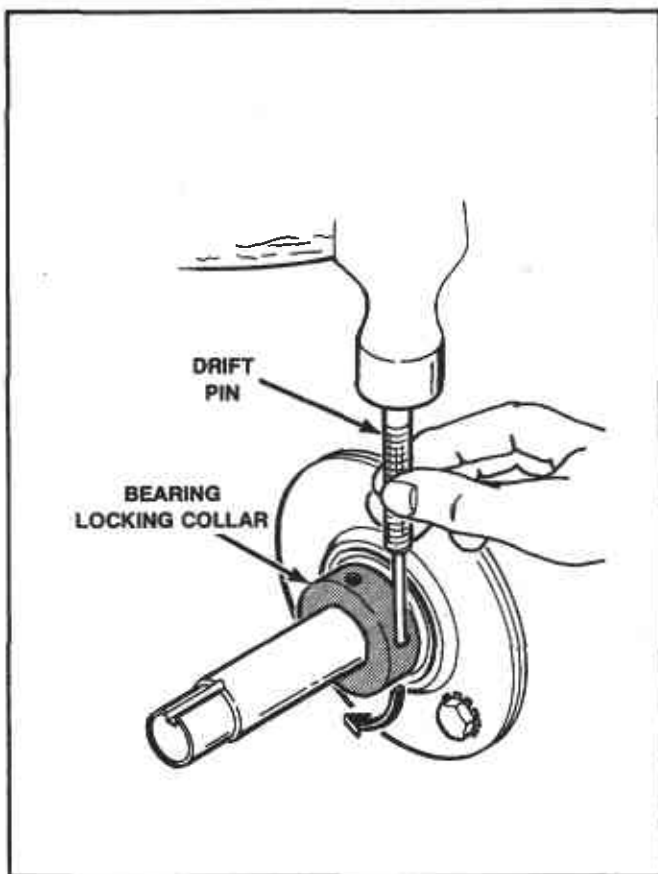

Figure 35
3. Break rear bearing locking collar loose with a drift pin in the collar hole, *Figure 35*.
3. Break front bearing locking collar loose with a drift pin in the collar hole, *Figure 35*.